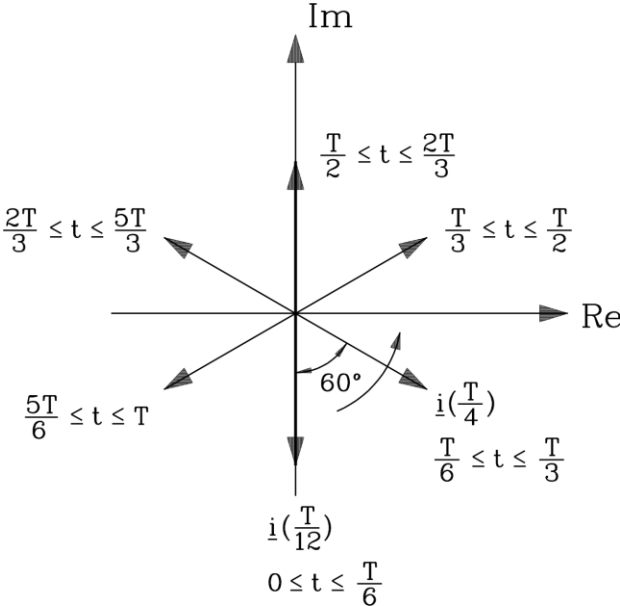

Fig. 8.6-6: The stator current space vectors for the six states during one fundamental cycle T
5) For a time interval of $\underline{\underline{\underline{\frac{T}{6} = \frac{12.37}{6} = 2.06 \text{ ms}}}}$ the direction of the current space vector remains unchanged, then it “jumps” 60° in anti-clockwise direction (Fig. 8.6-6).